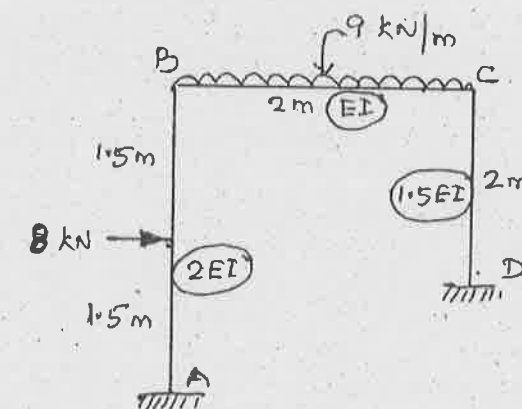

Fig. Q.14(b)
- (b) Analyze the portal frame shown in Fig. Q.14(b) by slope deflection method and draw the bending moment diagram.